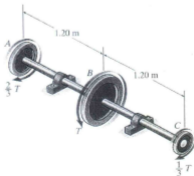

Figure 9
- b) The 50-mm-diameter shaft in **Figure 9** is made of 6061-T6 aluminum. If the allowable shear stress is 85 MPa, and the angle of twist of disk *A* relative to disk *C* is limited so that it does not exceed 0.05 rad, determine the maximum allowable torque *T*. (13)